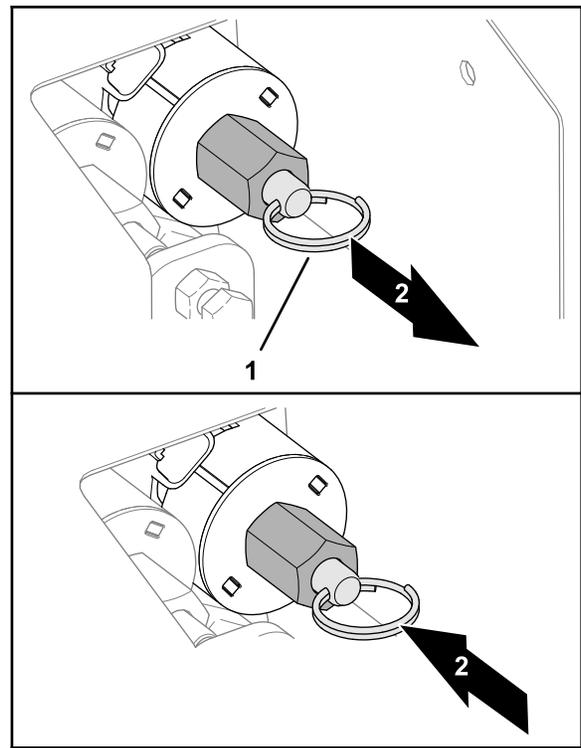

Figure 36
- To lower the hopper (Figure 36), pull the ring on the valve stem.
- To raise the hopper (Figure 36), push the split ring on the valve stem.